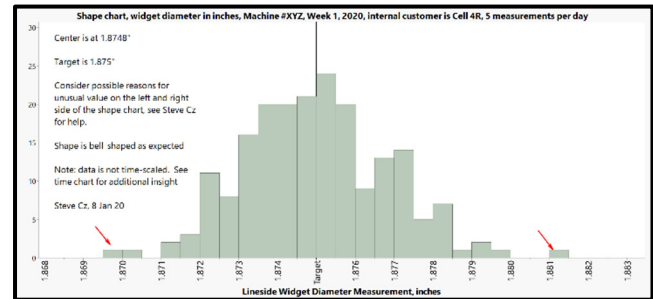

Figure 9, A well-annotated shape chart
Figure 9 and 10 are examples of well-annotated, clear shape charts that shop floor personnel can readily understand.
- ✓ Always state the shape chart is **not time-scaled** as shown in Figure 9.